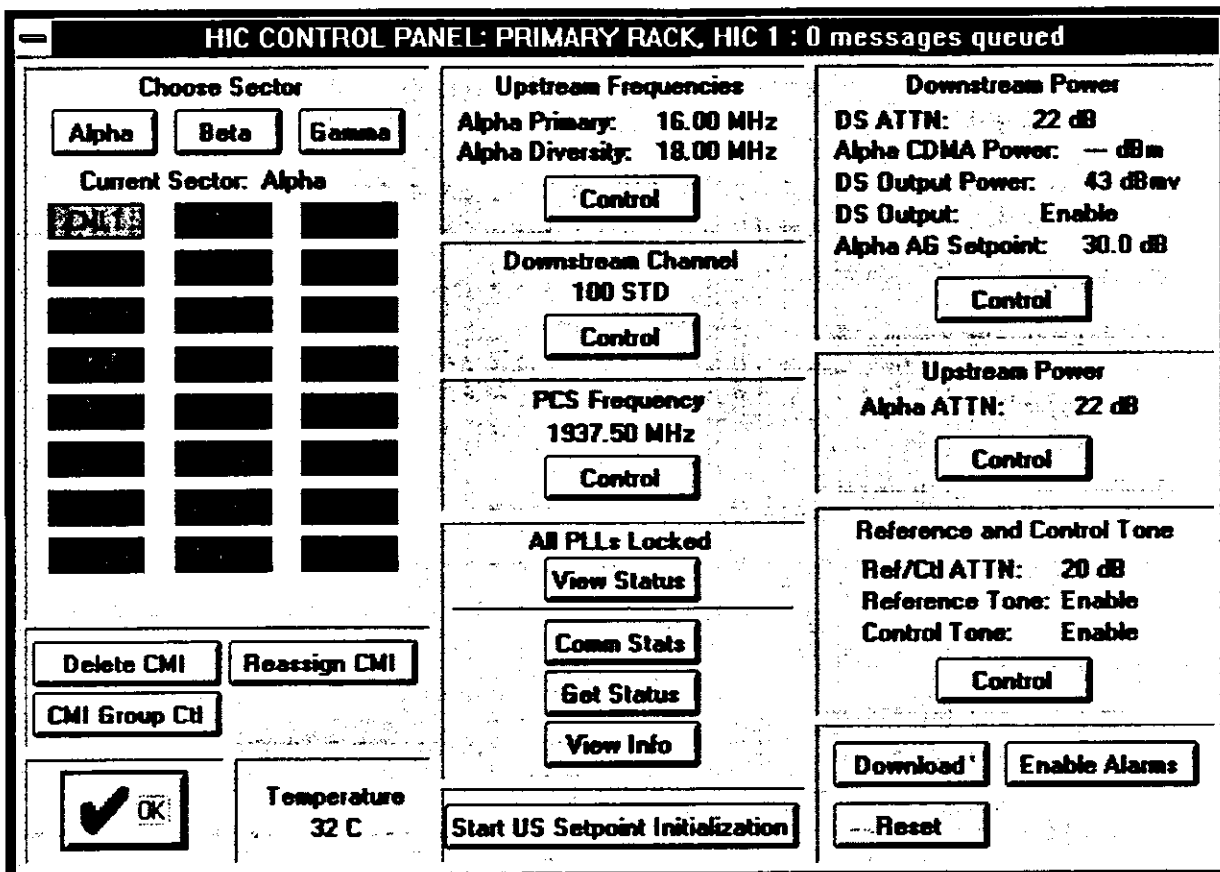

Figure 2-21. HIC CONTROL PANEL: Dialog
- b. Observe that the HIC CONTROL PANEL dialog appears (Figure 2-21).